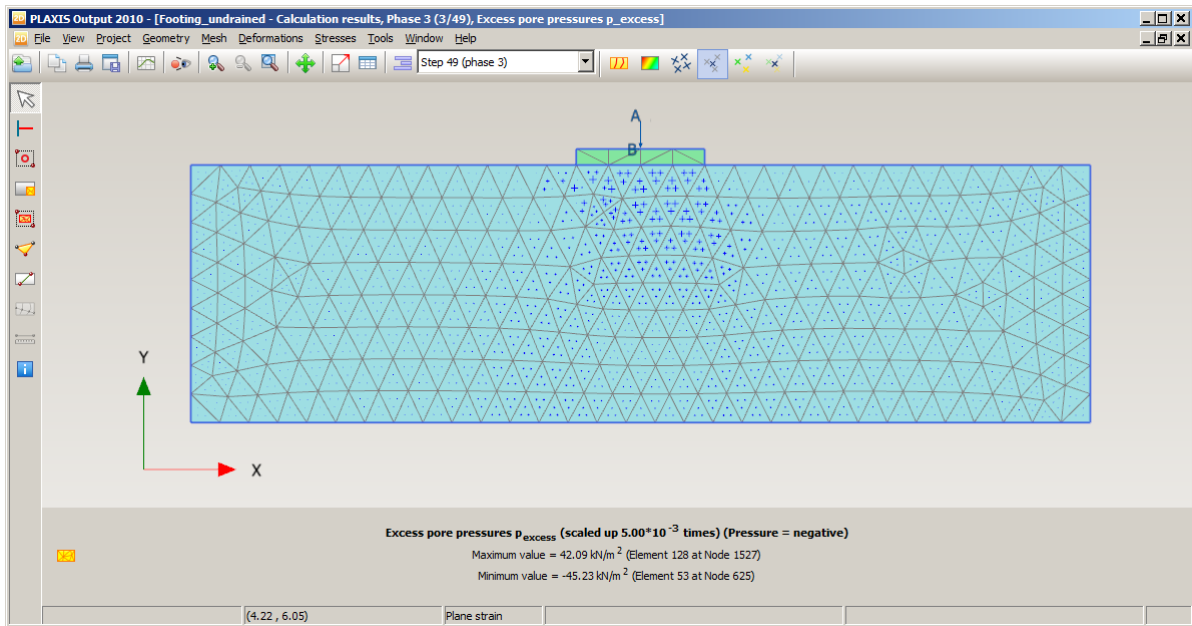

Figure 22: Excess pore pressures at the end of the 3rd phase
- Select from the *Stresses* menu the option *Pore pressures* and then p_{excess} , this results in Figure 22 .